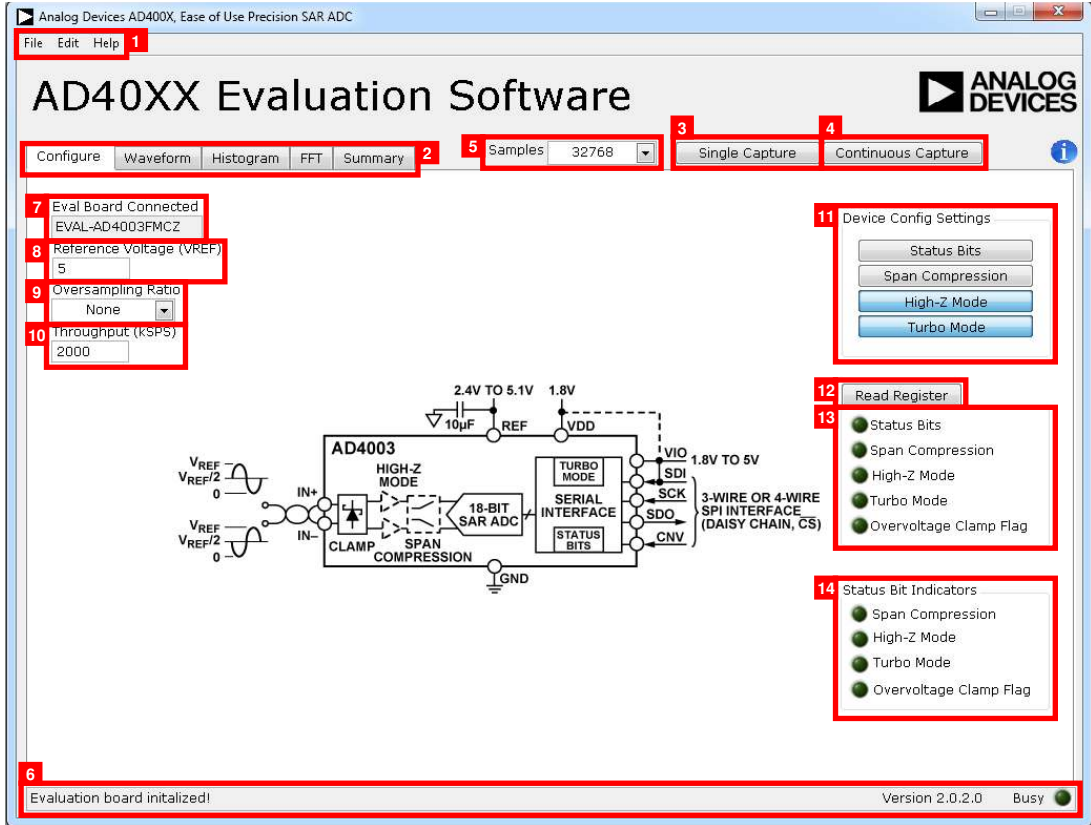

Figure 17. AD40XX Evaluation Software Front Panel (Configure Tab View)
After the AD40XX Evaluation Software Installer initializes, the software front panel appears, and the software automatically connects to any `EVAL-AD400x-FMCZ` evaluation board connected to the PC. The detected evaluation board is displayed in the **Eval Board Connected** indicator on the front panel (see Label 7 in Figure 17).
The AD40XX Evaluation Software Installer front panel is shown in Figure 17. The following sections describe the various software controls accessible on the front panel.
The **File** menu (Label 1 in Figure 17) provides the following options:
The **Edit** (Label 1 in Figure 17) menu provides the following option:
The **Help** menu (Label 1 in Figure 17) provides the following options:
The following five tabs are located at the top of the front panel (Label 2 in Figure 17): **Configure**, **Waveform**, **Histogram**, **FFT**, and **Summary**. These tabs select various front panel views.
Click **Single Capture** (Label 3 in Figure 17) to perform a single set of conversions. The number of conversions performed is set with the **Samples** dropdown list, which is located to the left of the **Single Capture** control.
Click **Continuous Capture** (Label 4 in Figure 17) to perform repeated sets of conversions. The number of conversions performed per set is set with the **Samples** dropdown list.
The **Samples** dropdown list (Label 5 in Figure 17) sets the number of conversions that are performed when **Single Capture** is clicked. The button also sets the number of conversions per set when **Continuous Capture** is clicked.
The status bar (Label 6 in Figure 17) displays information about the current process being completed by the **AD40XX Evaluation Software Installer**. The **Status Bar** includes a **Busy** indicator, which displays if the software is busy performing a task such as performing conversions, analyzing results, and so on.
Figure 17 shows the **Configure** tab view. The **Configure** tab provides controls for configuring the connected **AD4000** family device and software settings. The **Configure** tab view contains the following controls and indicators:
- **Eval Board Connected** (Label 7 in Figure 17): indicates that the **EVAL-AD400x-FMCZ** board is connected to the software.
- **Reference Voltage (VREF)** (Label 8 in Figure 17): sets the VREF used in data analysis such as when calculating **LSB Size** (see Label 2 in Figure 19), or measured voltage in the waveform graph (see the **Waveform Tab View** section. This control must be set to match the VREF used on the connected **AD4000** family evaluation board.
- **Oversampling Ratio** (Label 9 in Figure 17): sets the oversampling ratio applied to the captured data. After this control is set to any value other than **None**, the software sums up the consecutive conversion results together to increase effective resolution. The number of conversions summed together is set by the **Oversampling Ratio** control.
- **Throughput (kSPS)** (Label 10 in Figure 17): sets the throughput of the connected **AD4000** family device. The maximum value of this control is automatically set to reflect the maximum achievable throughput of the connected device, given the state of the **Status Bits** and **Turbo Mode** controls. See the relevant **AD4000** family device data sheet for more information on maximum achievable throughput.
- **Device Config Settings** (Label 11 in Figure 17): configures the connected **AD4000** family device user configuration register settings. See the relevant **AD4000** family device data sheet for a detailed description of the user configuration register and the device features.
- **Read Register** (Label 12 in Figure 17): reads the **AD4000** family device user register. When **Read Register** is clicked, the contents of the connected **AD4000** family device register are read to update the **Device Config Settings** items accordingly.
- **Device configuration settings display** (Label 13 in Figure 17): displays the status of the user register when **Read Register** is clicked. Each of the following indicators displays the state of the corresponding settings:
- **Status Bits Indicators** (Label 14 in Figure 17): displays the configuration settings of the device as indicated by the status bits. The status bits are enabled with the **Status Bits** control in the **Device Config Settings** pane (Label 11 in Figure 17). The **Status Bits Indicators** are only updated after conversions are performed with the **Single Capture** or **Continuous Capture** controls when the status bits are enabled on the connected **AD4000** family device. The
- **Bin Width**: displays the size of the frequency bins in the FFT graph x-axis. The bin width is a function of both the **Throughput (kSPS)** control (Label 10 in Figure 17) and the number of samples in the captured data.